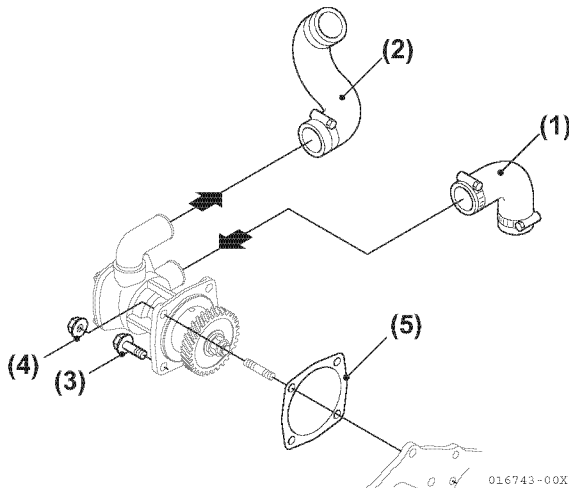

Figure 7-35
- Install the seawater pump assembly with new gasket (**Figure 7-35, (5)**) to gear case.
- Disconnect seawater supply hose from seawater pump (**Figure 7-35, (1)**).
- Disconnect seawater pump-to-heat exchanger pipe (**Figure 7-35, (2)**).
- Remove three bolts (**Figure 7-35, (3)**) and one nut (**Figure 7-35, (4)**) then remove seawater pump.
Note: When installing, use the new gasket (**Figure 7-35, (5)**).